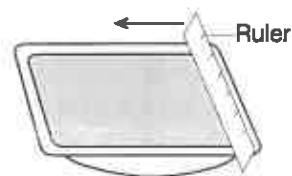

Figure 2.
3. Gently shake the dish back and forth to level the sand. Use the metric ruler to smooth the sand so it is even with the top of the dish (see Figure 2).